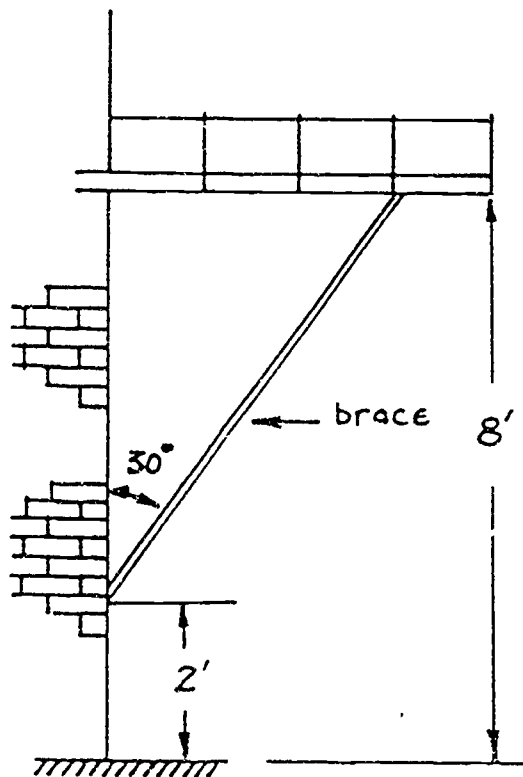

Figure 24: How long is the brace?
10. Your boss asks you to cut a brace from bar stock for a platform as shown in Figure 24. Find the length of the brace to the nearest hundredth of a foot. (Hint: The square root of 3 = 1.73.)